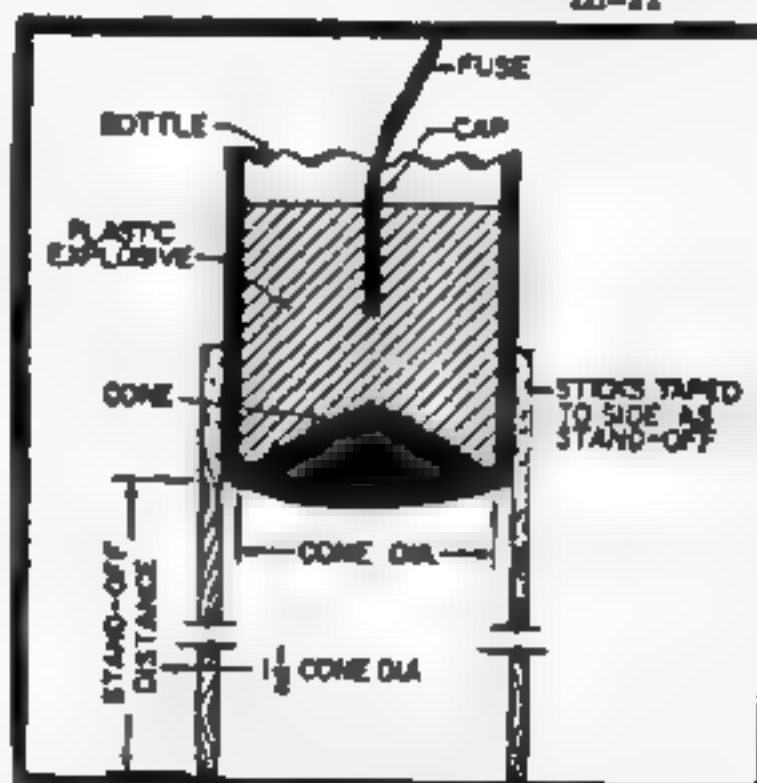

Figure 17 Shaped Charge
e. **Shaped Charges.** If available, manufactured shaped charges will always give results far superior to those produced by any improvised shaped charges. The angle of the cavity of an improvised shaped charge should be between 30 and 60 degrees. Stand-off should be from 1 to 3 times the diameter of the cone. Height of the explosive, measured from the base of the cone should be twice the height of the cone. Exact center priming and tightly packed C4 is important. Trial and error experimentation in determining optimum stand-off is necessary. A point worth mentioning in preparing hollow-bottomed bottles for shaped charge use is to hold the bottle upright when burning the string soaked with gasoline. As the flame goes out submerge the bottle, neck first, in water; and if properly done, the bottle will break cleanly where the string was burned. Hemispherical cavities will produce more surface damage on the target but less penetration. A true cone with an angle of approximately 65 degrees will produce more penetration, which ultimately is the desired results. (See Figure 17.)